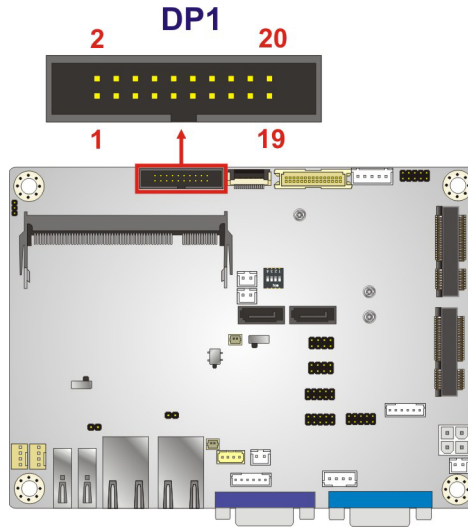

Figure 3-9: Display Port Connector Location
- CN Location: See **Figure 3-9**